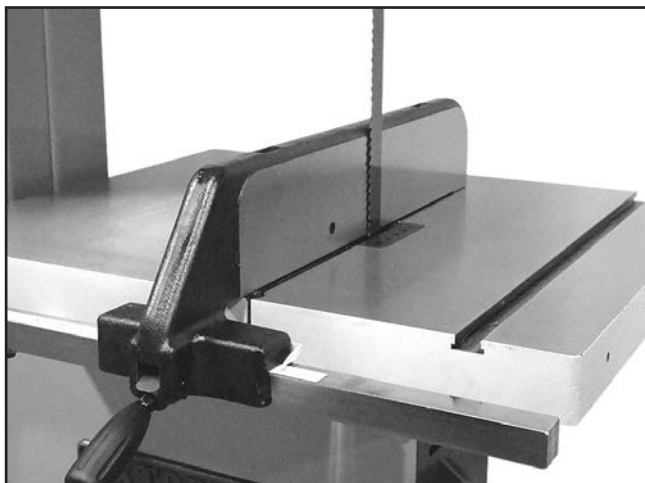

Figure 31. Fence flush with blade.
6. Place the fence flush against the bandsaw blade (see **Figure 31**).